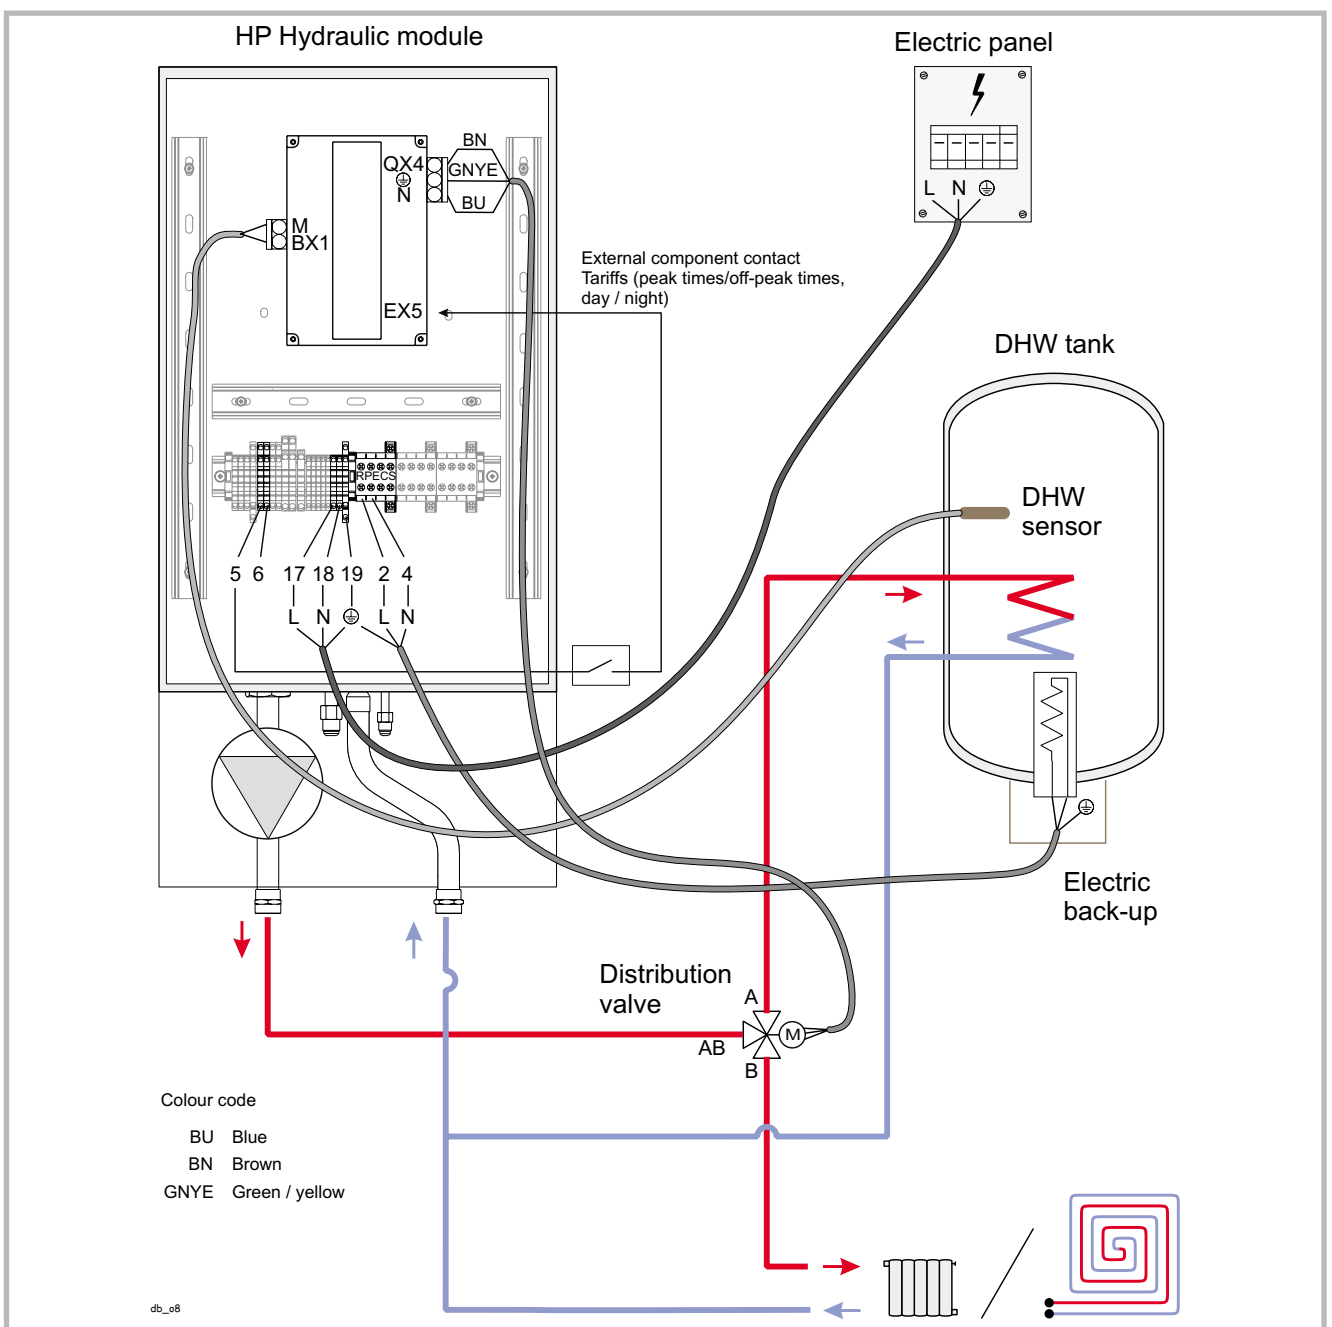

Figure 5 - Overview of the electrical connections on the hydraulic unit
☞ **see Figure 5**
- Connect the “Power Provider” contact to input EX5 (Figure 5).